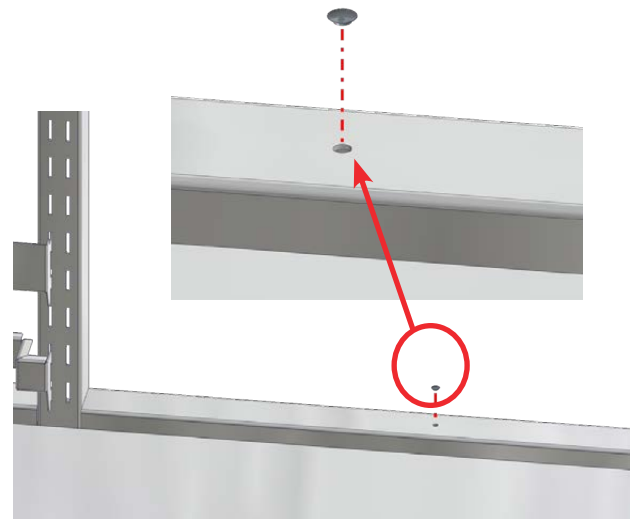

Fig. 15: Remove plug on table
19. Remove the plug from either the left hand or right hand side of the table bracket (Fig. 15 - wherever you desire to place the extension arm).